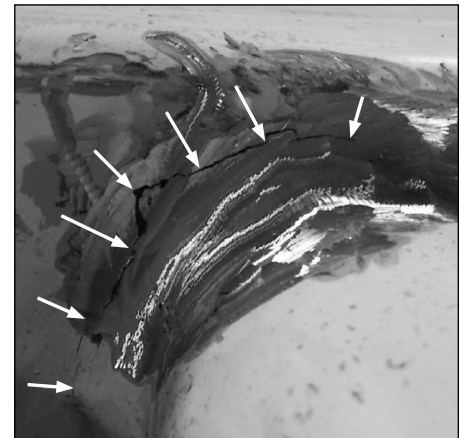

Figure 3 — Cracking in Side Plate
- If the dye penetrant shows cracking in the side plate (refer to Figure 3), use a die grinder to grind a slight groove along the length of the crack to mark it. Then proceed to step 7b.